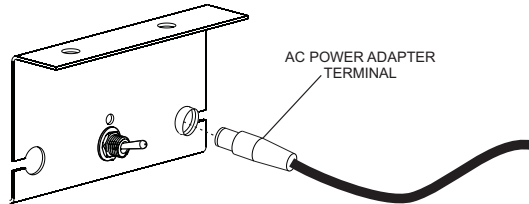

Figure 47
12. Plug power adaptor into receptacle in junction box inside fireplace. Connect power adaptor terminal into its receiver on the right of the burner assembly. **See Figure 47**.